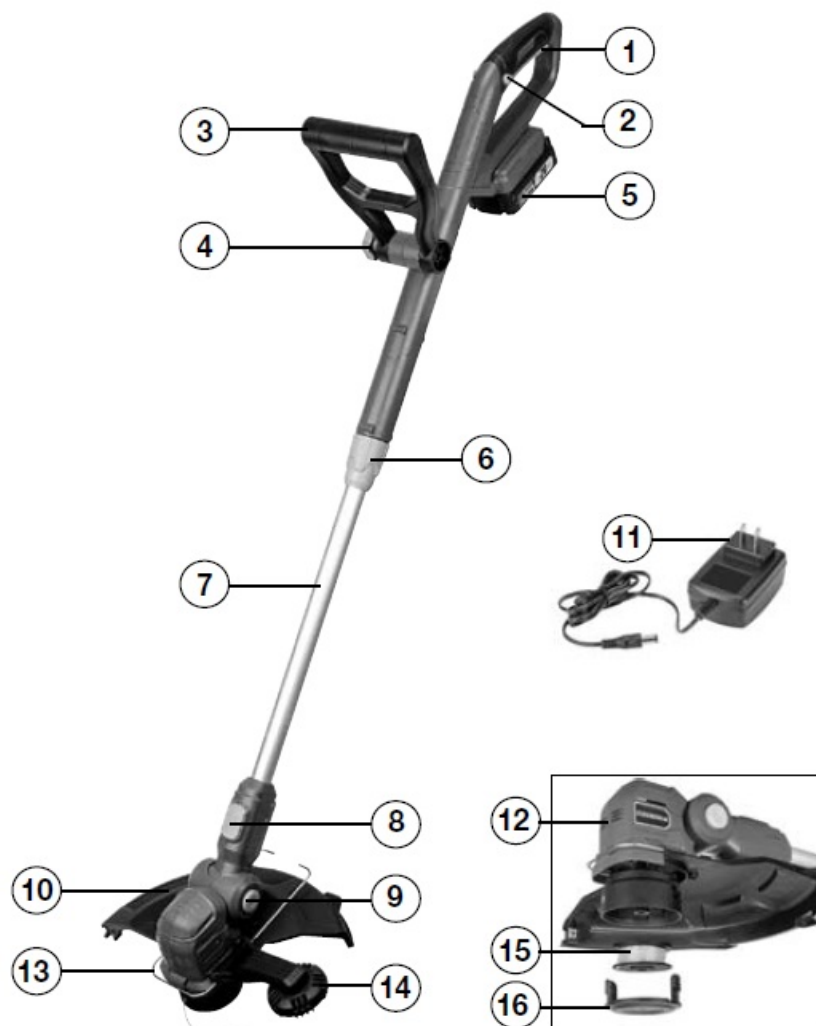

FIG 1
- To Start the Trimmer, press the lock-off button (2-FIG 1) and squeeze the trigger switch (1-FIG 1).
If too much line is fed out, remove the spool cap (16-FIG 1) and turn the spool counterclockwise until the line is at the desired length.